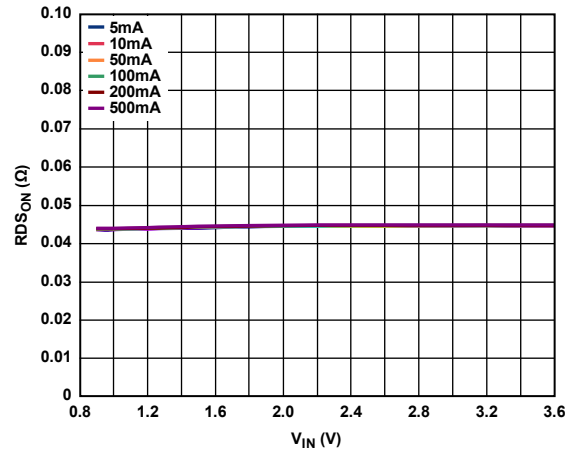
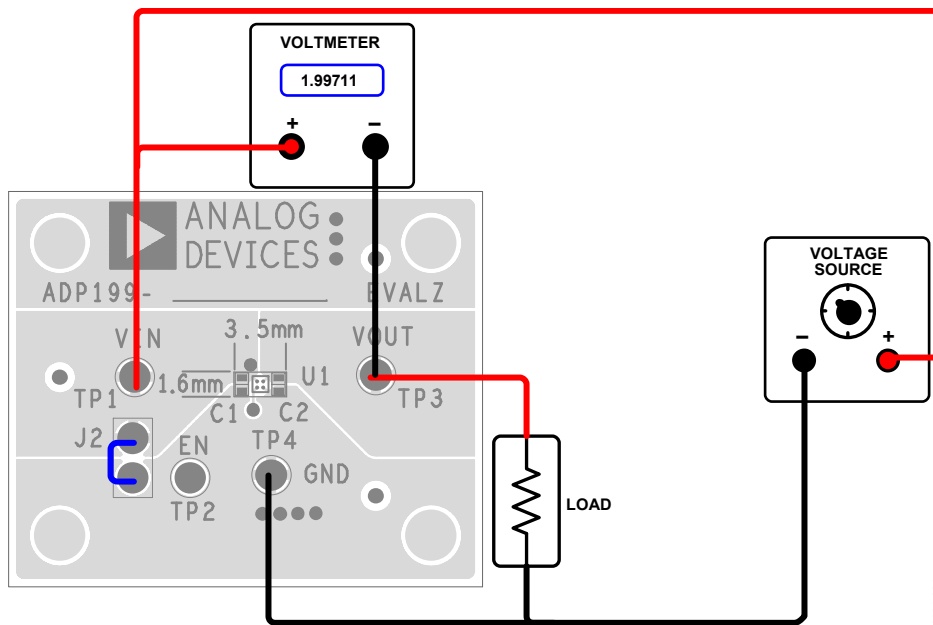

Figure 3. RDS(ON) vs. Input Voltage (VIN)
Figure 4. RDS(ON) Measurement
RDS(ON) can be measured using the configuration shown in Figure 4. For more accurate measurements, a second voltage meter can be used to monitor the input voltage across the input capacitor. The input supply voltage may need to be adjusted to account for IR drops, especially if large load currents are used. Figure 3 shows a typical curve of RDS(ON) measurements with different load currents.